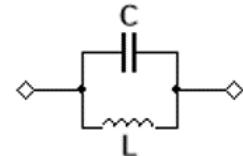

FIGURE 2. LC parallel combination.
2.2. Resonant LC Circuits. The impedance of an inductor and capacitor are both imaginary but have opposite signs: $Z_L = j\omega L$ and $Z_C = 1/j\omega C = -j/\omega C$. The impedance of this parallel combination (Fig. 2) is given by